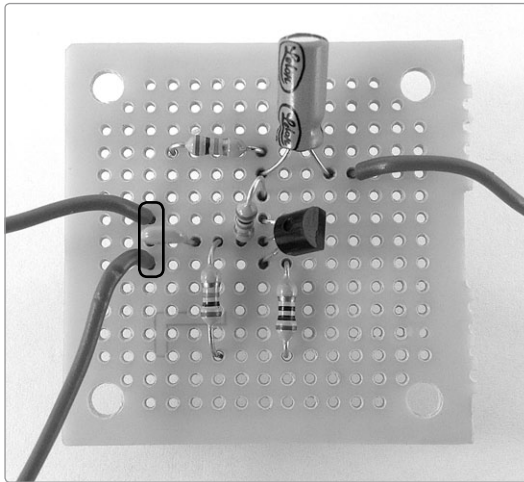

FIGURE 12-17: *Completing the input. The upper lead connects to the volume control, and the lower one connects to the tone control.*
Step 20 Next, add the volume control/input jack and the tone control knob. Take the volume control pot and insert the insulated lead into the hole immediately above the 0.1 μF input capacitor. Now add the insulated lead from the tone control to the first hole below this capacitor (these wires are highlighted in Figure 12-17). Solder each lead and the capacitor leg to its respective pad, and then solder both leads and the capacitor together. Trim away excess wires once the solder joint cools.